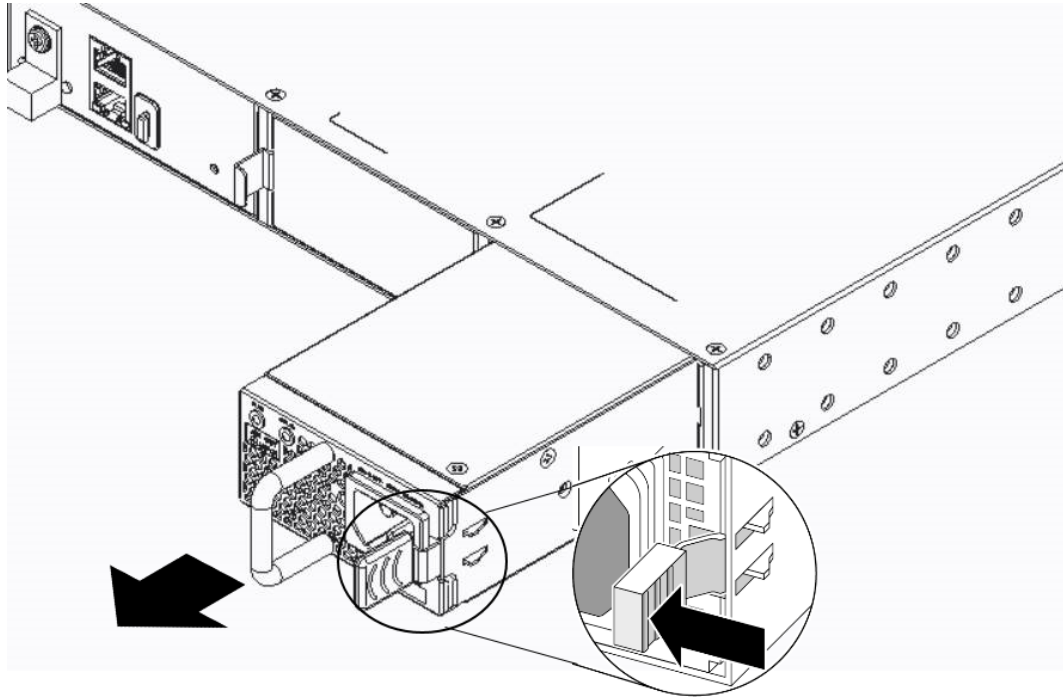

Figure 77: Removing a 550 W AC Power Supply
3. Push the latching tab toward the power supply handle and pull outward on the handle to disengage the power supply internal connectors. See Figure 77.